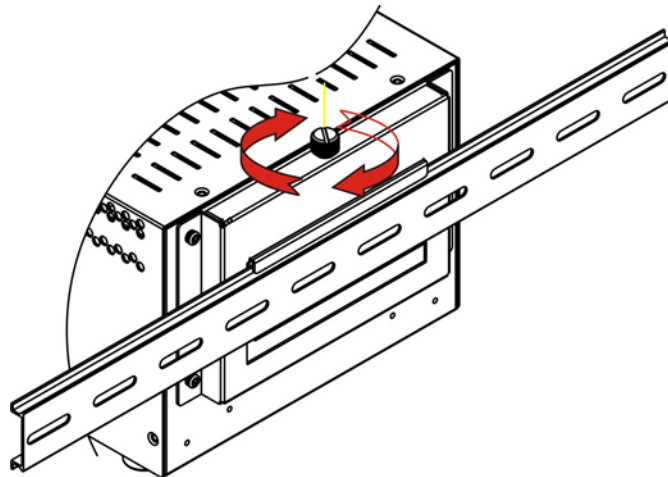

Figure 5-26: Secure the Assembly to the DIN Rail
Step 4: Secure the DIN rail to the mounting bracket by turning the top screw clockwise. This draws the lower clamp up and secures the monitor to the DIN rail (Figure 5-26).